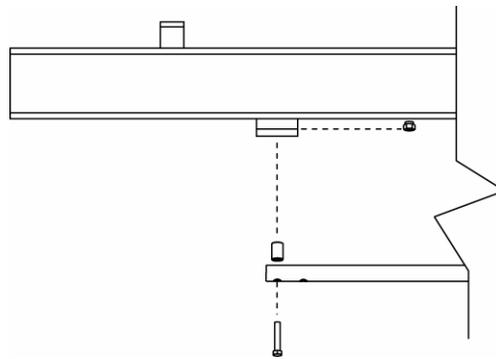

Figure 10
- * Slide the end of the padded switchbar without a mounting hole in it through the slot in the overhead switch assembly. Connect the padded switchbar to the inside hole in the overhead beam using a cylindrical spacer, 1/4-20 X 1-3/4 HHCS, and Flanged Nut, figure 10.